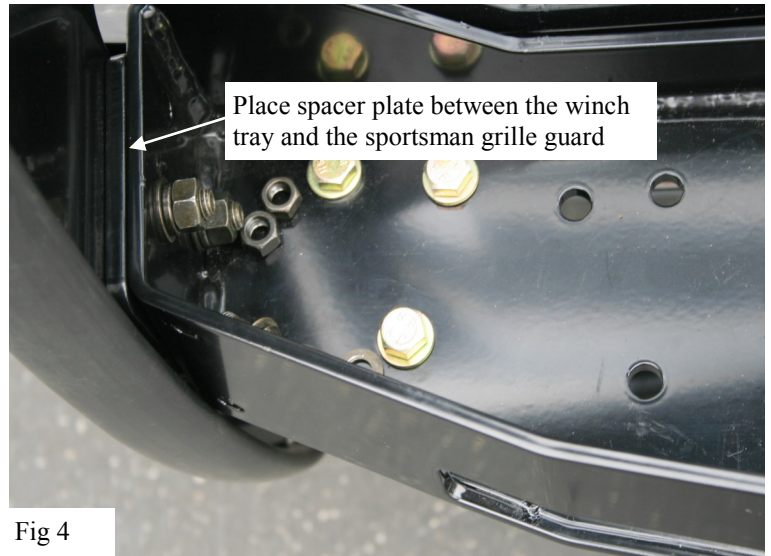

Fig 4
9. To install the Sportsman grille guard on 2011+ vehicles, take the grille guard and align it to the outside of the winch tray, take the (2) thick spacer plates and place them between the grille guard and the winch tray, attach the grille guard to the winch tray using (4) M12x 45mm button head bolts, (8) M12 flat washers, (4) M12 lock washers, and (4) M12 hex nuts. To attach the grille guard to the mounting bracket take (2) 28mm round spacers and place them between the mounting bracket and the grille guard, attach using (2) M12 x 75mm button head bolts, (4) M12 flat washers, (2) M12 lock washers, and (2) M12 hex nuts. Do not fully tighten at this time Fig 4.